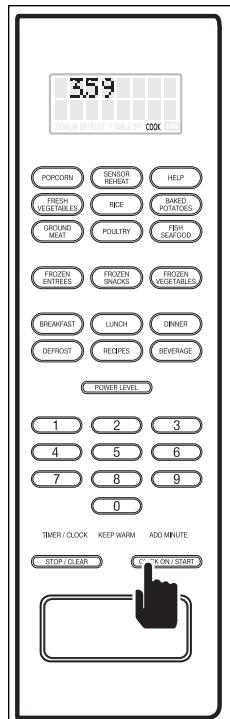

Figure 3-29.
2. Press the QUICK ON/START key to begin cooking for the time amount entered. The oven will energize and the display will show the time as it counts down. (See Figure 3-29) At the end of the cooking time, “END” will flash on the display and the alarm will beep.